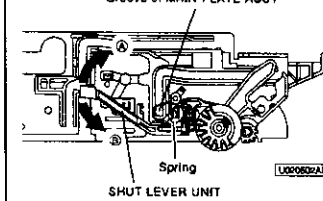

Fig. 2-6-2
3. Insert the spring of the SHUT LEVER UNIT under groove of the MAIN PLATE ASSY shown in Fig. 2-6-2.